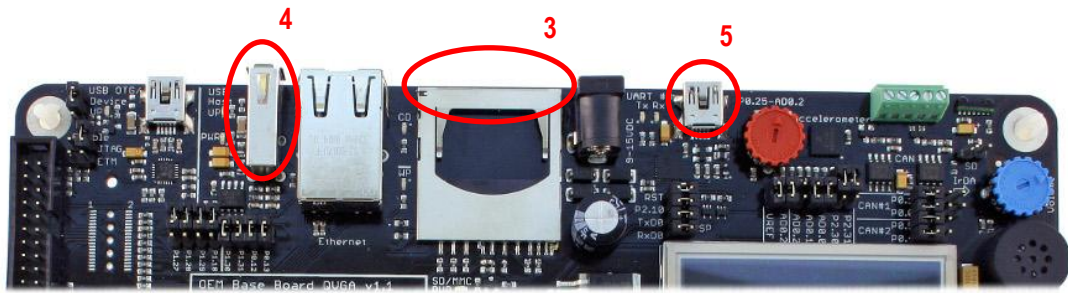

Figure 1 Top Part of the QVGA Base Board
3. Insert the MMC/SD card in the MMC/SD card slot on the QVGA Base board, see Figure 1.
4. Insert the USB memory stick in the USB A connector, see Figure 1.
5. Connect the USB cable that came with the board to the USB mini-B connector marked UART #0, see Figure 1. Also make sure that the cable is connected to your computer.
Note: Make sure the automatic ISP jumpers (marked RST and P2.10 on the base board) are **open**. If not it's possible that a terminal application resets the board. In Figure 1 the jumpers are closed.